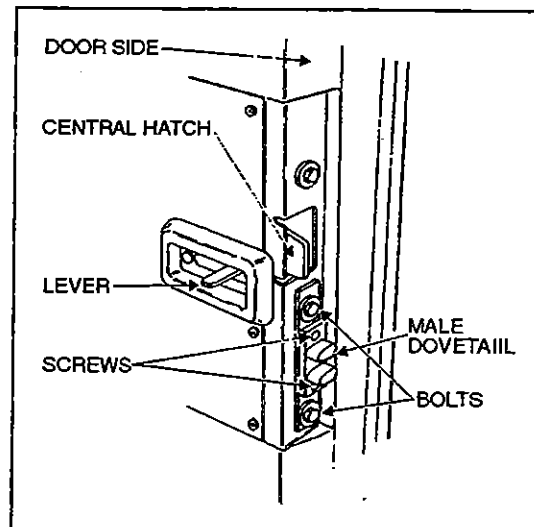

Figure 13
5. To adjust the male dovetail on L.H. side of the door, remove the two screws and loosen the two bolts. Slide the male dovetail toward the interior and lightly tighten the two bolts. Close the door slowly but firmly, then slowly open it, and tighten the two bolts. Fix dovetail to the door with the screws. See figure 13.